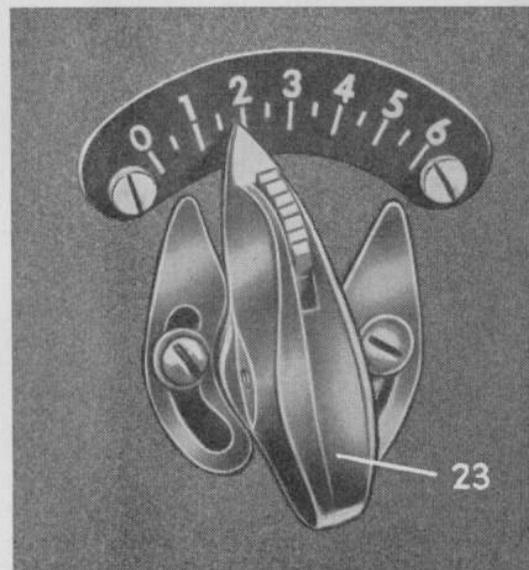

FIG. 19
The machine will make a plain straight stitch when the zig-zag regulator knob (23), fig. 19, points at marking "0" at extreme left of dial.